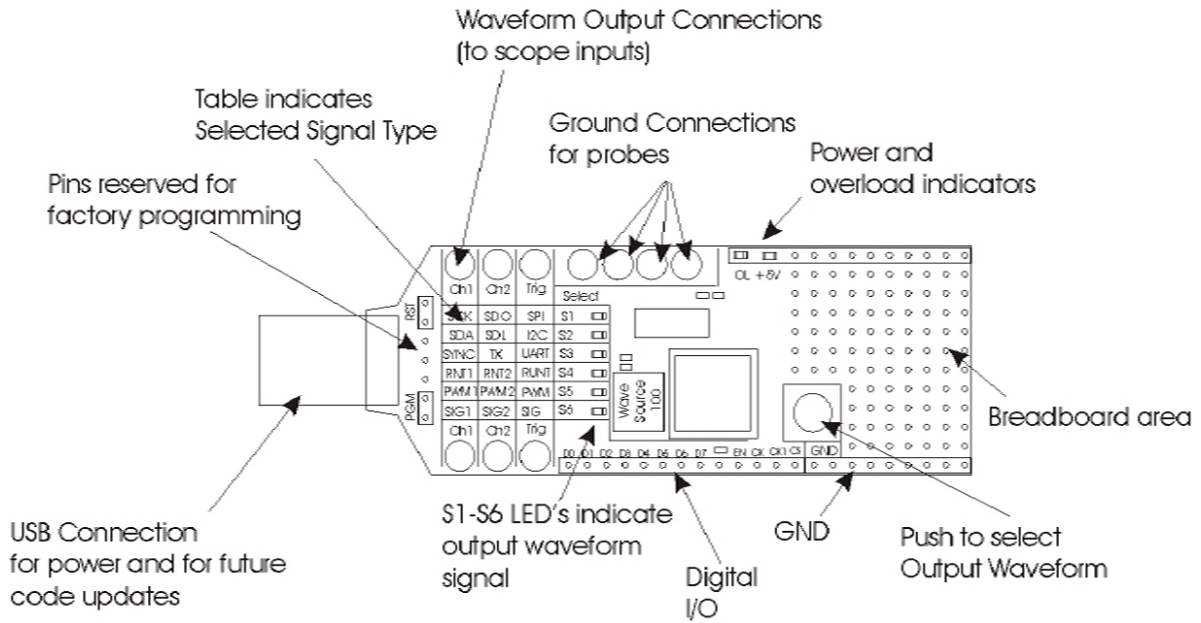

Figure 1: An outline drawing of the WS 100 demonstration signal source. Use the push button to select one of 6 waveform choices
7. Connect one passive probe to Ch1 of the scope and Ch1 of the WS 100. Ch1 is the data of the I2C signal. Connect the ground lead of the probe to the ground connection on the WS-100 as shown in Figure 1.
8. Connect one passive probe to Ch2 of the scope and Ch2 of the WS 100. Ch2 is the clock of the I2C signal. Connect the ground lead of the probe to the ground connection on the WS-100 as shown in Figure 1.